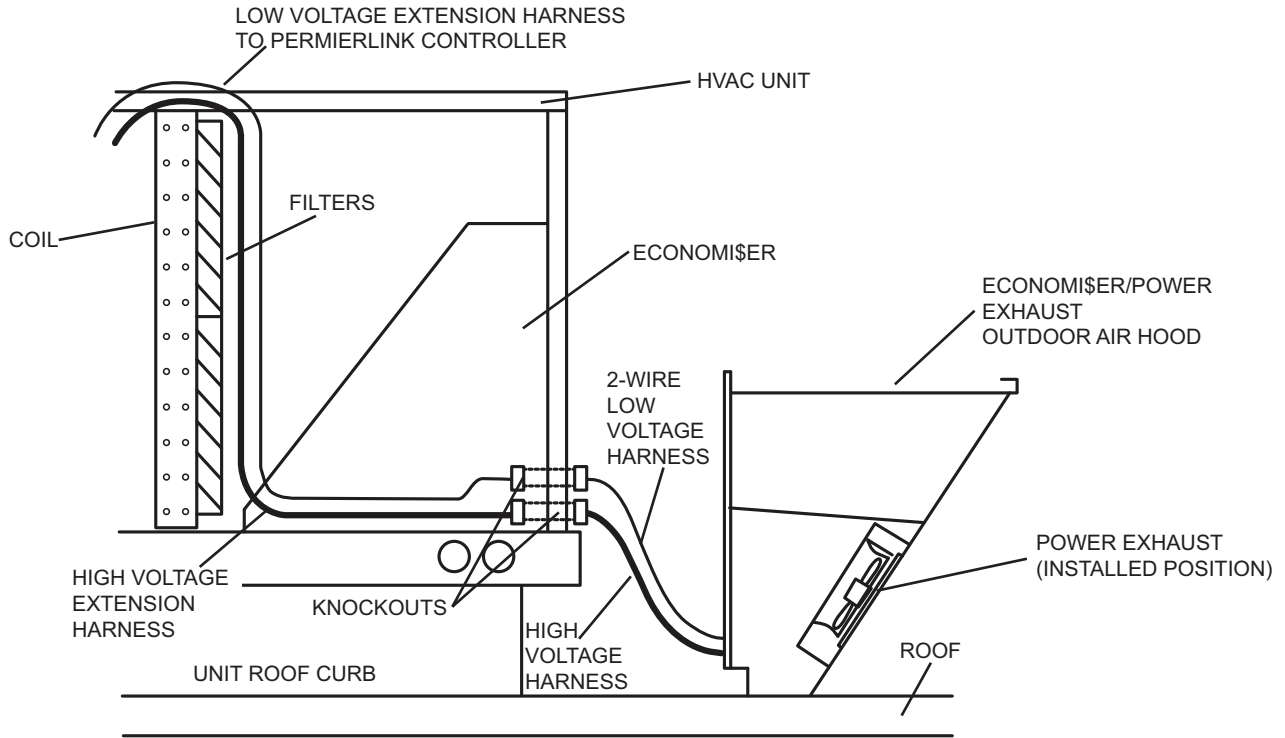

Fig. 9 — Power Exhaust Harness Installation with EconomiSer2 and PremierLink Controls
3. From the rear of the EconoMi\$er2 accessory, connect the low voltage extension harness plug to the two-wire harness from the power exhaust. (See Fig. 9.)
4. Route the other end of the low voltage extension harness to the PremierLink controller. (See Fig. 9.)
7. From the rear of the EconoMi\$er2 accessory, connect the long high voltage extension harness plug to the power exhaust harness. (See Fig. 9.)